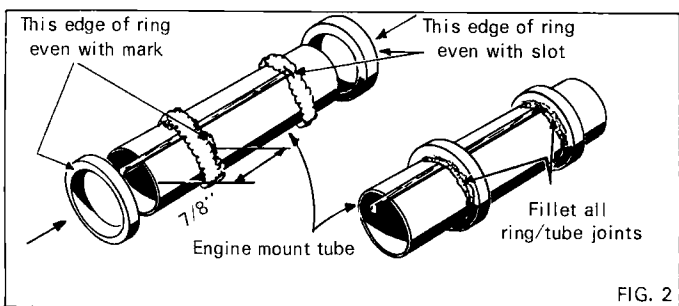

FIG. 2
- 6 Cut out the patterns for the fins, fairings and "heatsinks". Trace out one fin and one fairing on each of the four sheets of BFS-30 as illustrated in fig. 2. Make sure that the grain runs in the direction indicated on the pattern. Mark out four copies of the heatsink on the sheet of BFS-20.